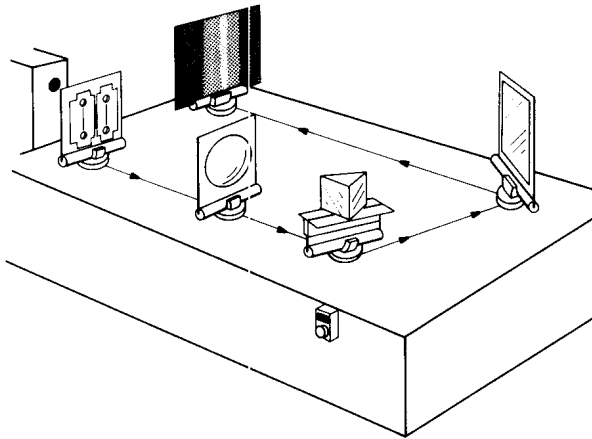

Figure 32.
1. *Replace the grating with a prism*, as shown in Figures 32 and 33.